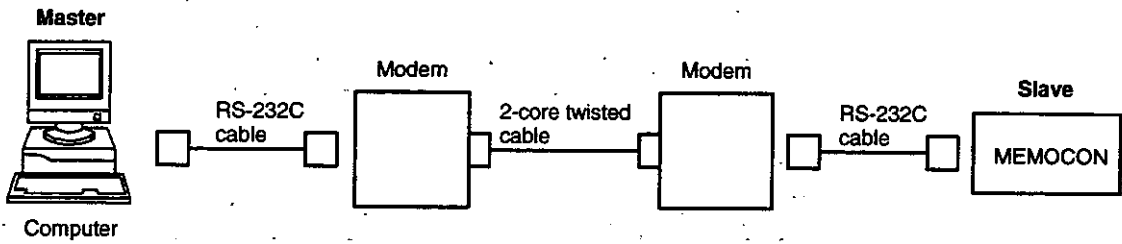

Figure 2.2 Typical 1:1 MEMOBUS Configuration Connected by Modems
2) Figure 2.2 shows an example of a master and slave configuration connected by modems.